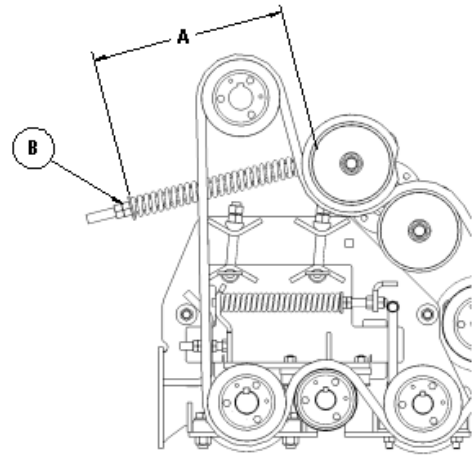

Figure 7-21: Front Drive Belt Adjustments
3. Adjust the nut (B), shown in Figure 7-21, until spring length (A) is 13.5 inches (34cm).